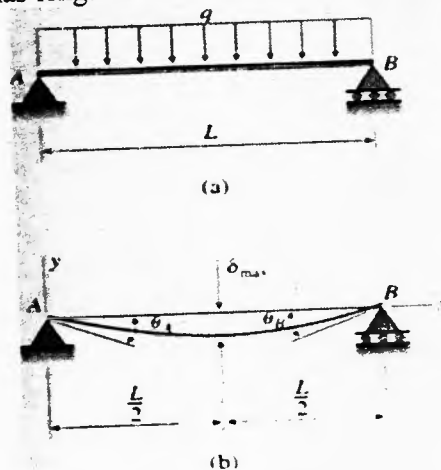

Figure 7
3. a. Determine the equation of the deflection curve for a simple beam AB supporting a uniform load of intensity  $q$  acting throughout the span of the beam as shown in the figure. Also, determine the maximum deflection  $\delta_{\max}$  at the midpoint of the beam and the angles of rotation  $\theta_A$  and  $\theta_B$  at the supports as shown in the figure 7. (Note: The beam has length  $L$  and constant flexural rigidity  $EI$ .) [6]